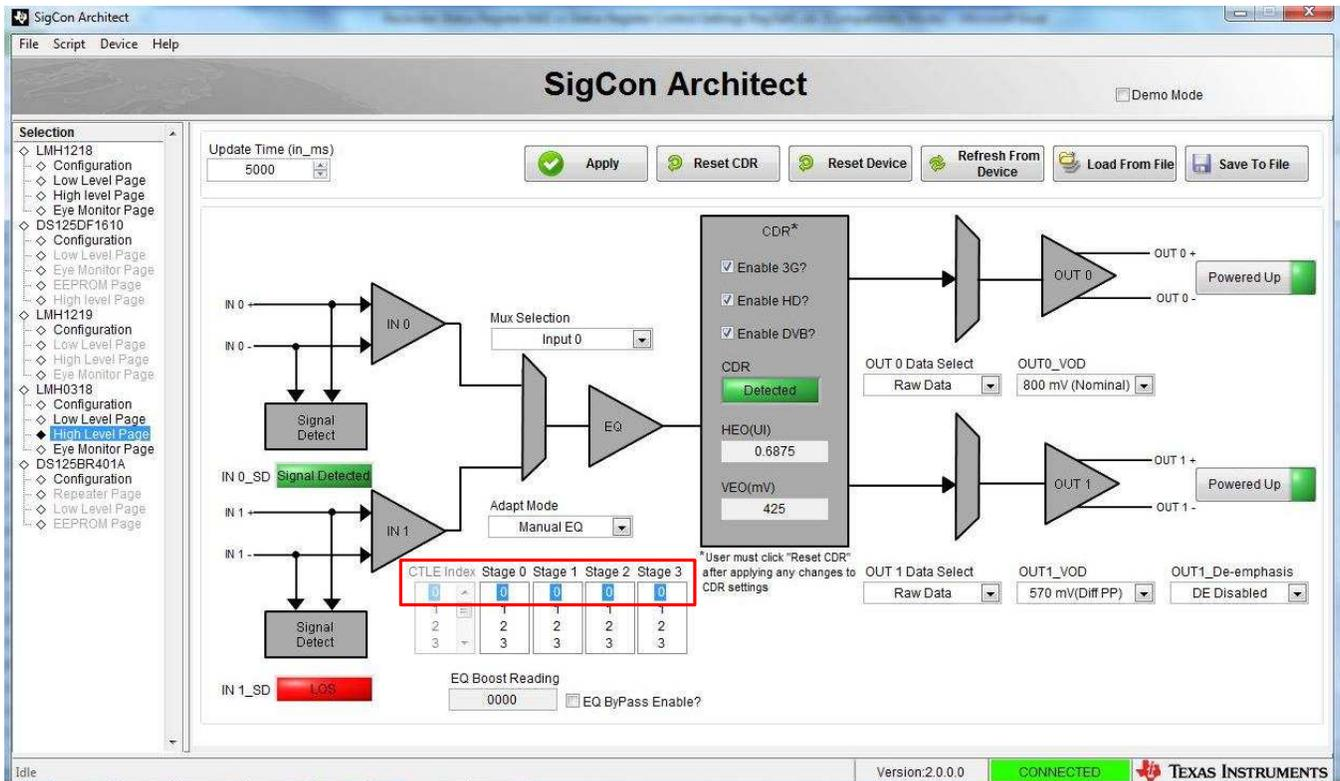

Figure 9. LMH0318 High Level GUI
3. After successfully establishing communication between the SigCon Architect software and the device, select the LMH0318 *High Level Page* tab for the LMH0318 (see Figure 9 ). By default, the channel CTLE stage 0 gain has been set to 2 to compensate for a long PCB trace. In some cases, set stage 0 of the CTLE to 0 as shown in Figure 9. See the LMH0318 Programming Guide for additional information.